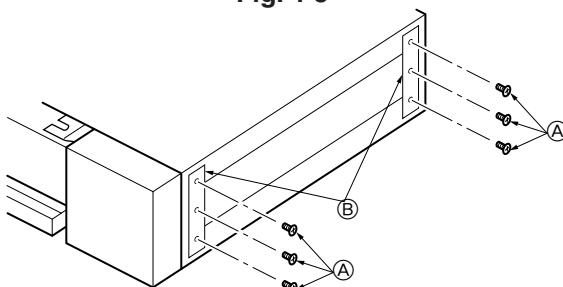

Fig. 4-4
4.3. Transportation support removal (Fig. 4-4)